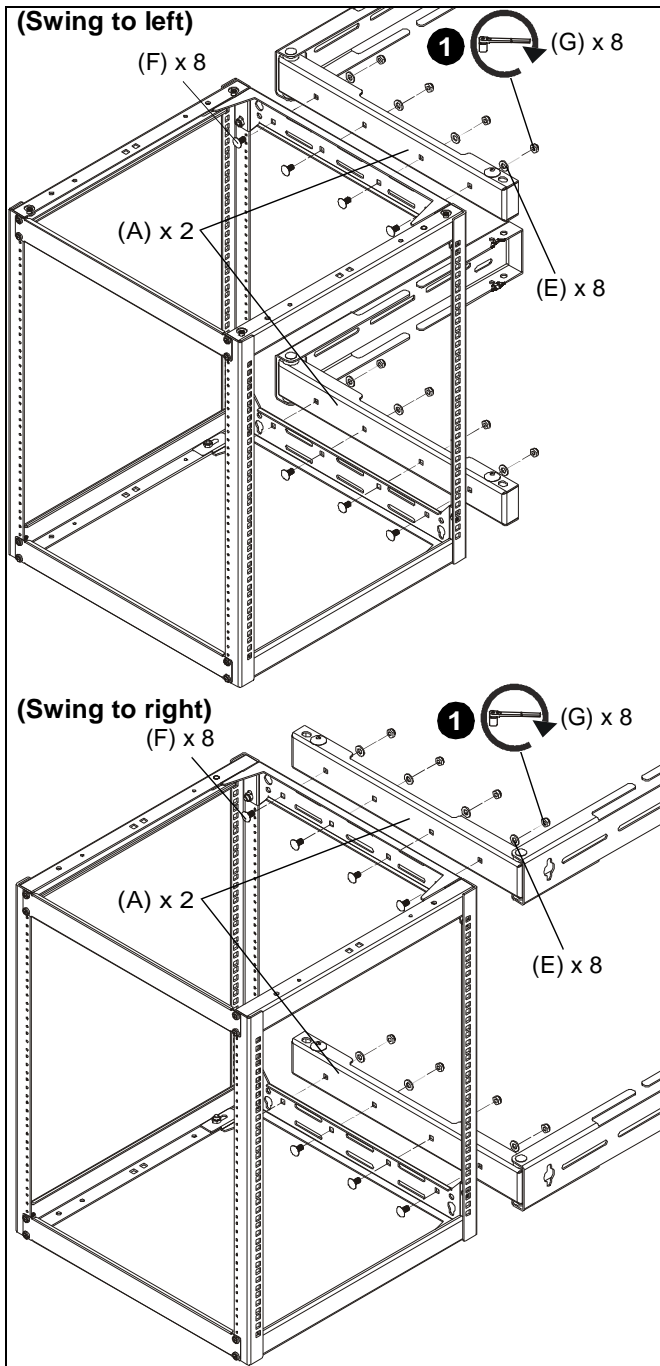

Figure 1
1. Use eight 1/4-20 carriage bolts (F), eight 3/4" washers (E) and eight 1/4-20 hex nuts (G) to secure two swing arms (A) to braces of NS2F1520-2020 rack. (See Figure 1)